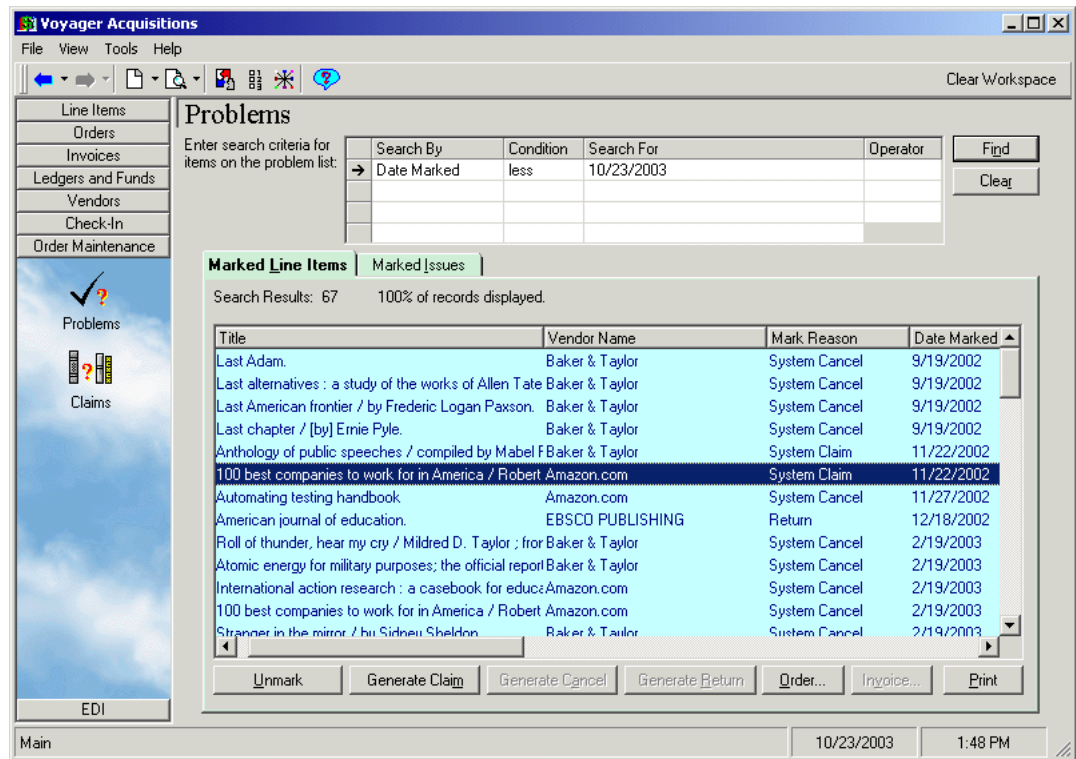

Figure 2-124. Problems workspace search results
7. To process an item, select it and click the wanted action button (see Figure 2-124). See Problems Workspace on page 11-16.